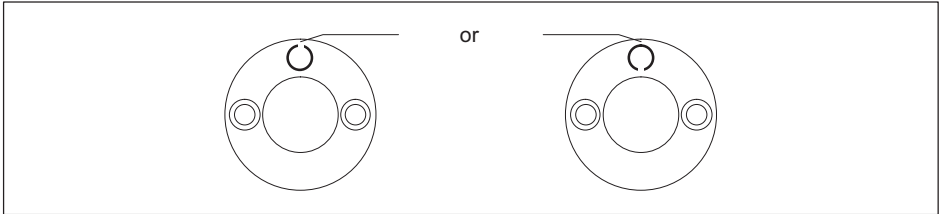

Fig. 6.1 Position of dowel pin relative to rotation stop
- ▶ Knock the dowel pin with a hammer into the blind hole of the thrust piece until the pin is seated. Position the open side of the dowel pin radially (Fig. 6.1).